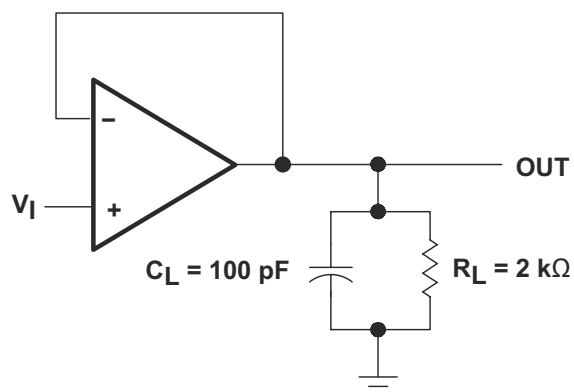

Figure 7-1. Unity-Gain Amplifier
| SR Slew rate at unity gain (1) | $V_I = 10\text{ V}$ , $R_L = 10\text{ k}\Omega$ , $C_L = 100\text{ pF}$ , see Figure 7-1 | 1.5 | 3.5 |     | V/ $\mu\text{s}$       |
| $t_r$ Rise-time                           | $V_I = 20\text{ V}$ , $R_L = 10\text{ k}\Omega$ , $C_L = 100\text{ pF}$ , see Figure 7-1 |     | 0.2 |     | $\mu\text{s}$          |